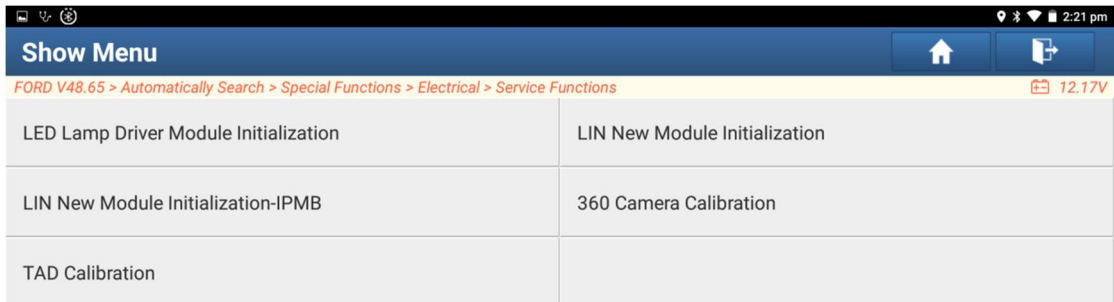

Figure 7
6. Select [TAD Calibration] (Figure 7).